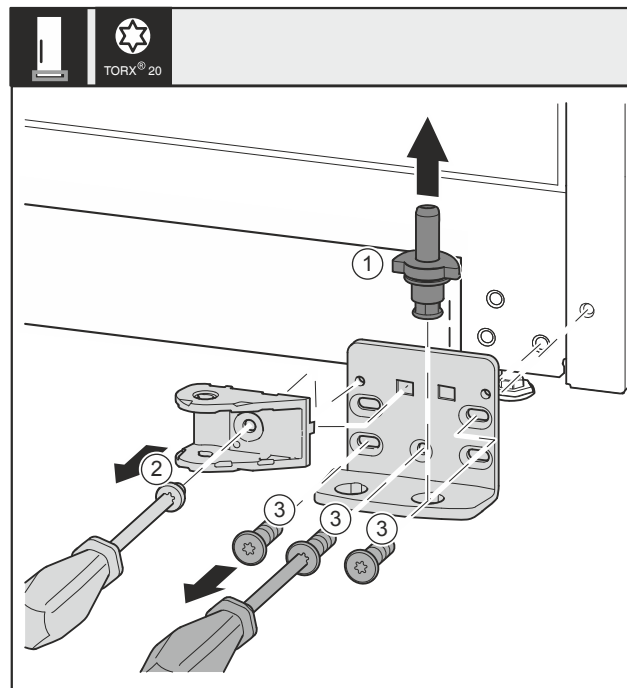

Fig. 33 *
- ▶ Pull the bearing bolt Fig. 33 (1) out upwards completely.*
- ▶ Use screwdriver to unscrew the screw Fig. 33 (2) and remove the closing damper connection.*
- ▶ Use screwdriver to unscrew the screws Fig. 33 (3) and remove the swap bearing block.*